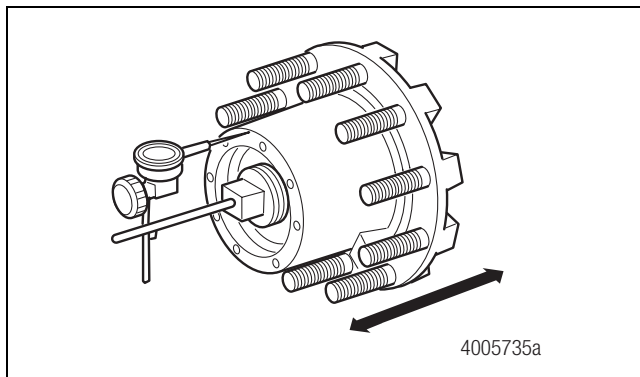

Figure 4.14
3. Attach the magnetic base of the dial indicator to the spindle. Touch the dial indicator stem to the hubcap mounting surface. Figure 4.14.